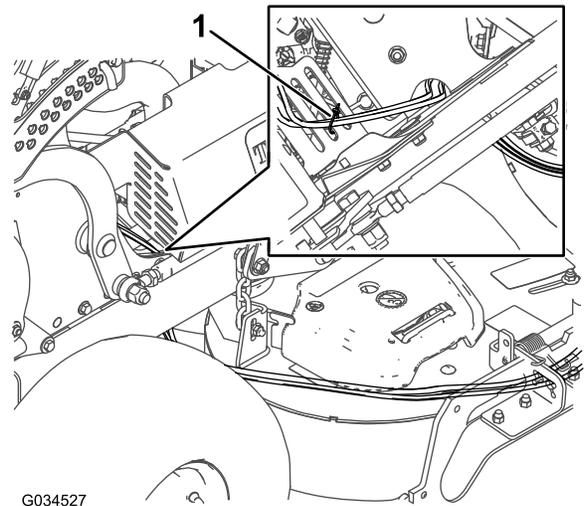

Figure 9
- Use the cable ties to secure the cables to the fan guard and away from moving parts (Figure 9).